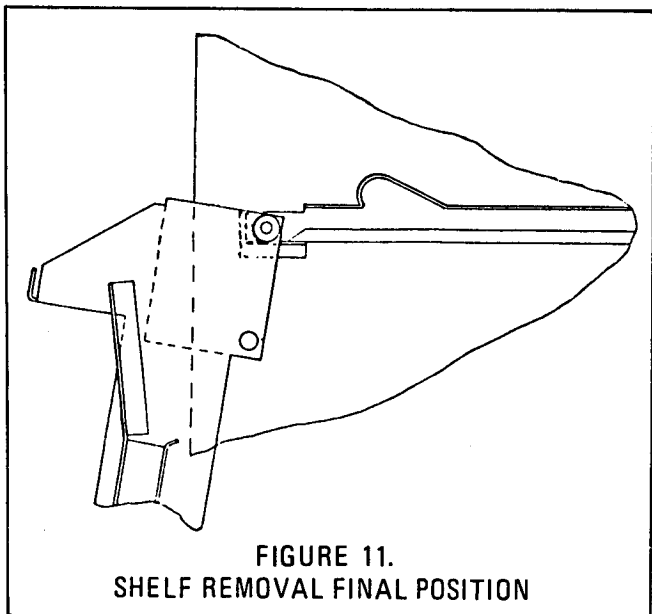

FIGURE 11.
3. Lower the front end of the shelf and it will hang vertically in front of the machine. (See Figure 11.)